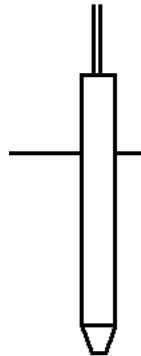

Fig. 1
- Do not submerge the probe in any liquid deeper than shown in Fig. 1 presenting the permissible level of probe submerging (Fig. 1).
After cleaning procedures as described above, it is possible to carry out the disinfection of the probe by submerging it as shown on Fig. 1 in 2% solution of glutaren aldehyde or by sprinkling it with this solution